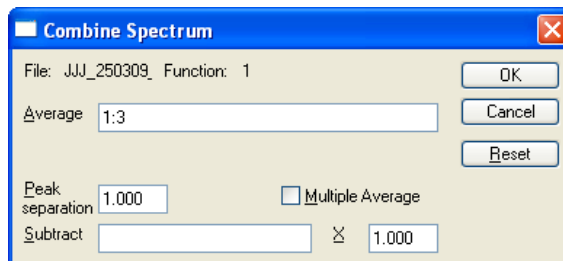

Figure 88 - Combine Spectra window
20. Specify three scans to combine, as shown in Figure 88, then click **OK**.